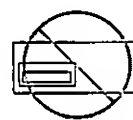

Figure 2
- Envelopes with transparent windows (see Figure 2)